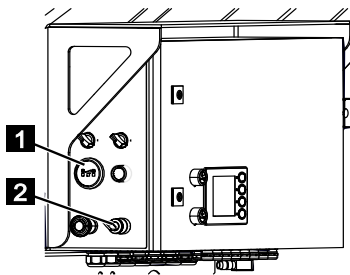

Fig. 220
1. Turn the ignition switch (Fig.220/2) clockwise to [1].
2. Check the battery capacity on the battery display (Fig.220/1) and compare it with the following table.